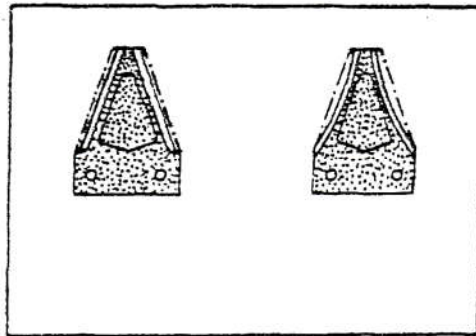

Figure 19
- Well and properly ground knives, see Figure 19.